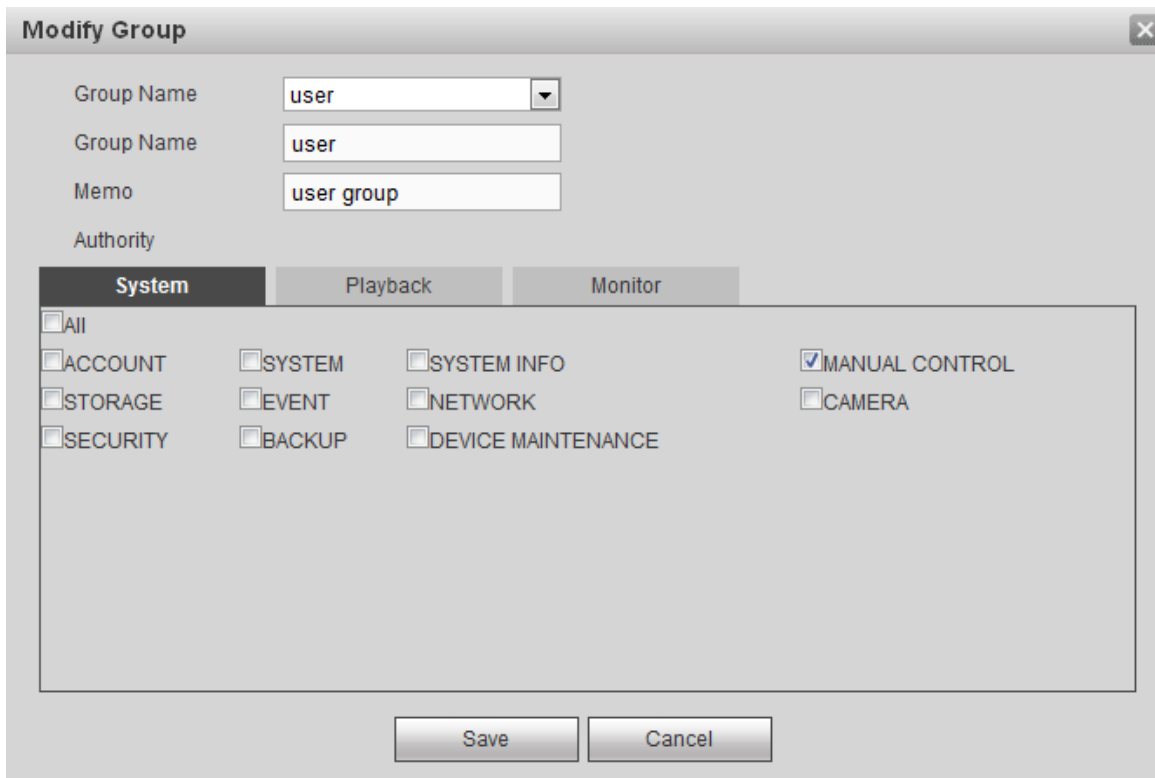

Figure 5-136
Step 1 Select a group and then click . See Figure 5-136.